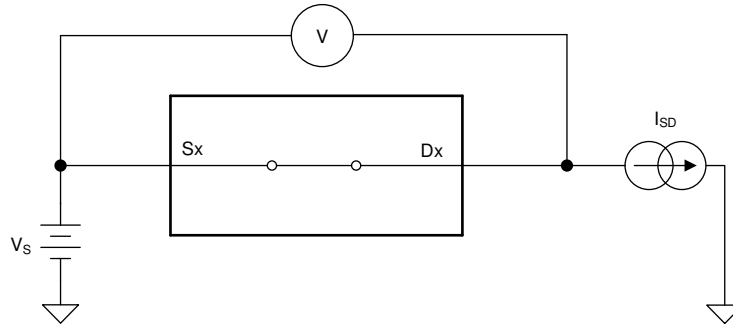

图 6-1. On-Resistance Measurement Setup
The on-resistance of a device is the ohmic resistance between the source (Sx) and drain (Dx) pins of the device. The on-resistance varies with input voltage and supply voltage. The symbol R_{ON} is used to denote on-resistance. The measurement setup used to measure R_{ON} is shown in 图 6-1. Voltage (V) and current (I_{SD}) are measured using this setup, and R_{ON} is computed as shown below with $R_{ON} = V / I_{SD}$: